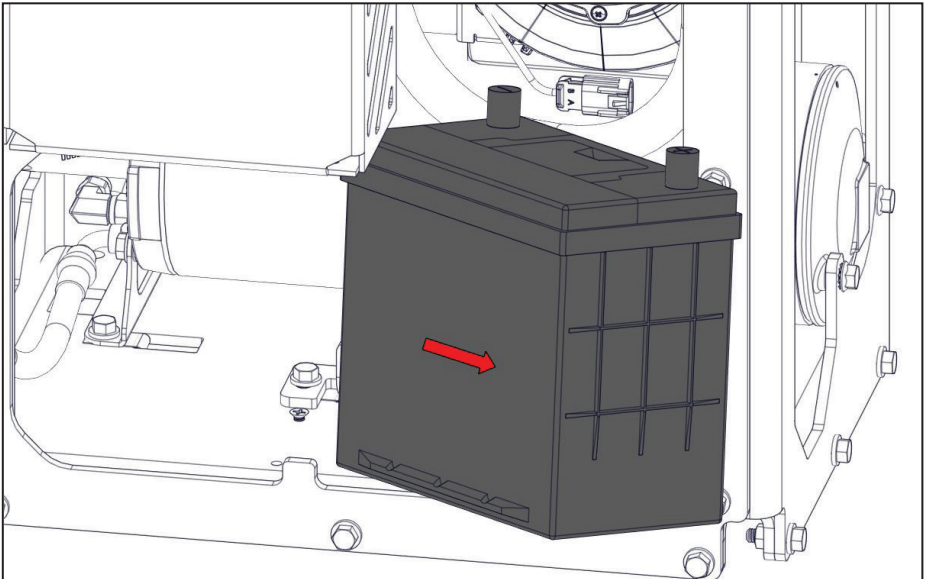

Figure 63 — Remove battery
- ☐ Rotate the battery and pull it out of the frame (Figure 63).